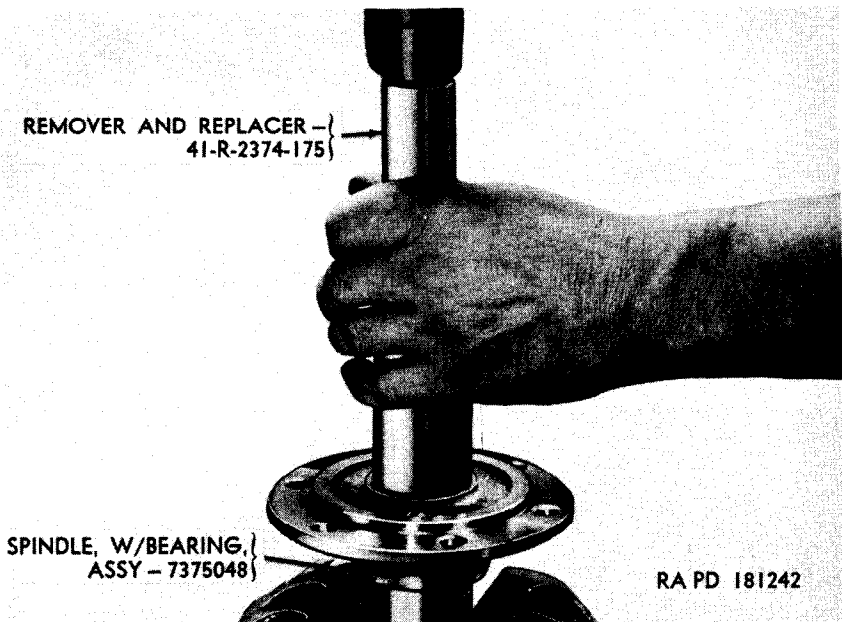

Figure 106. Installing front axle bushing type spindle bearing.
- (1) If the bushing type spindle bearing must be replaced, proceed as follows: Remove bushing type spindle bearing from spindle with a suitable drift. Position new bushing type spindle bearing in place in bore of spindle and drive it in position with the remover and replacer 41-R-2374-175 (fig. 106).
- (2) Clean all damaged bolt holes with standard taps.